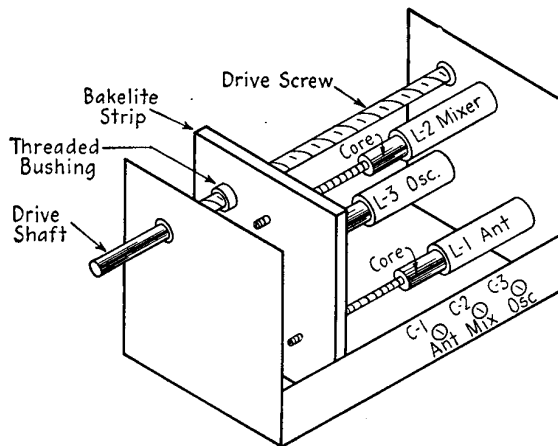

FIG. 15-15.—A permeability tuner of the screw-drive type.
Screw-drive Permeability Tuners.—Another type of permeability tuner uses a screw for driving the ganged tuning slugs. Figure 15-15 shows a tuner of this type. The proportions have been altered to permit viewing the operation of the unit.
5. Tune the receiver to a quiet point near the high-frequency end of the tuning range, adjust the signal generator to feed the same frequency as that shown on the receiver dial scale, and align the oscillator high-frequency trimmer for maximum output. This trimmer is labeled *C-3* in Figs. 15-15, 15-16, and 15-17.